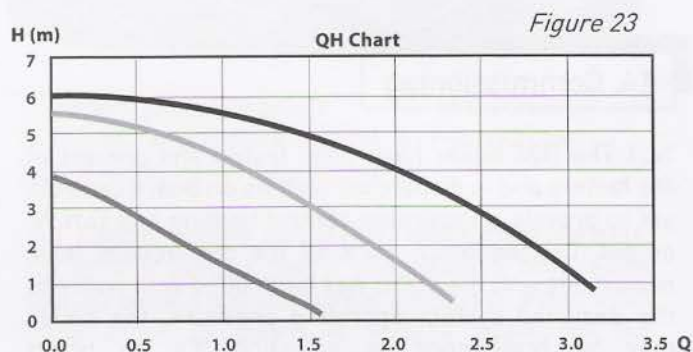

Figure 23
15.9 The boiler's integral pump is factory set to its maximum speed setting to give a 1000 l/hr flow on a nominal over 5 m head. The pump may be adjusted to a lower speed to match the designed central heating system requirements. (Figure 23)